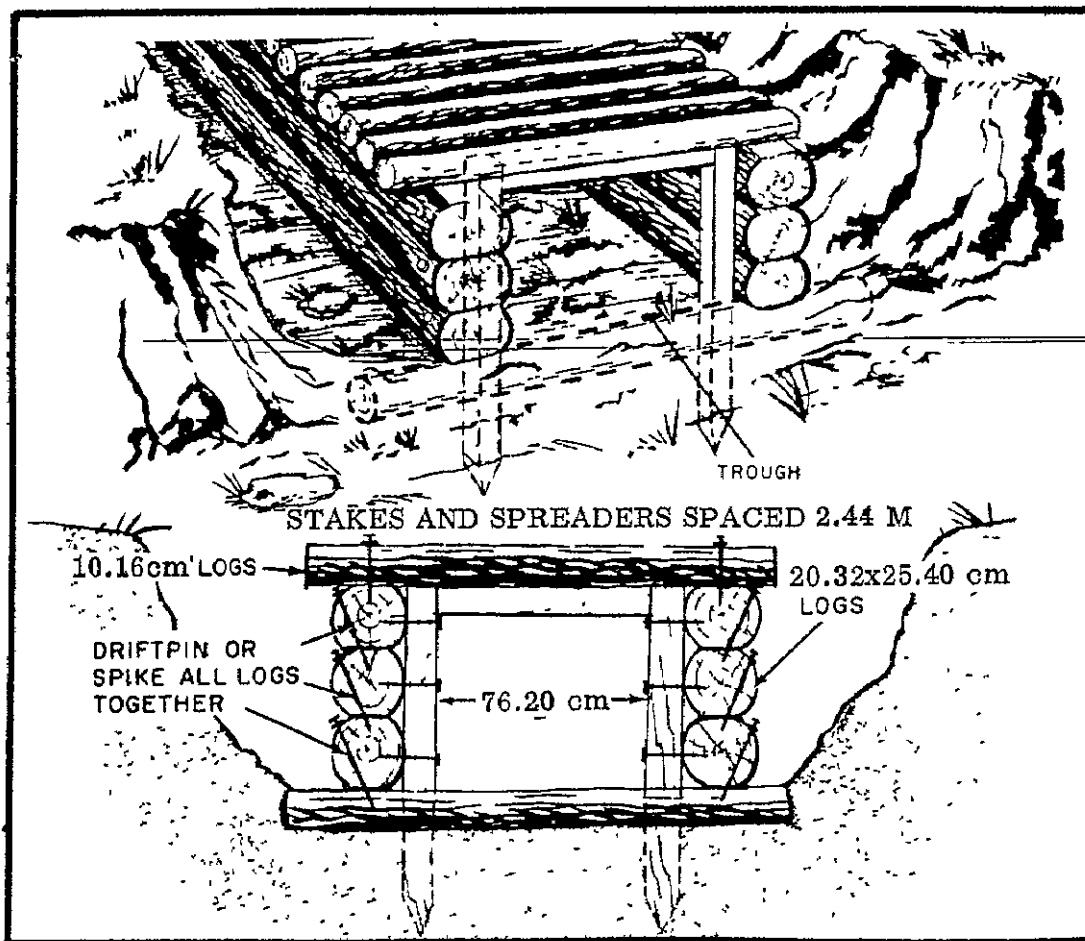

Figure 51. Log culvert, 30-inch.
b. Box Culverts. There are several types of box culverts: log box and timber box. Examples of each are shown in figures 51 through 53.
(1) Notched, having a notched edge and plain edge.
(2) Flanged, having flanges with slotted holes.